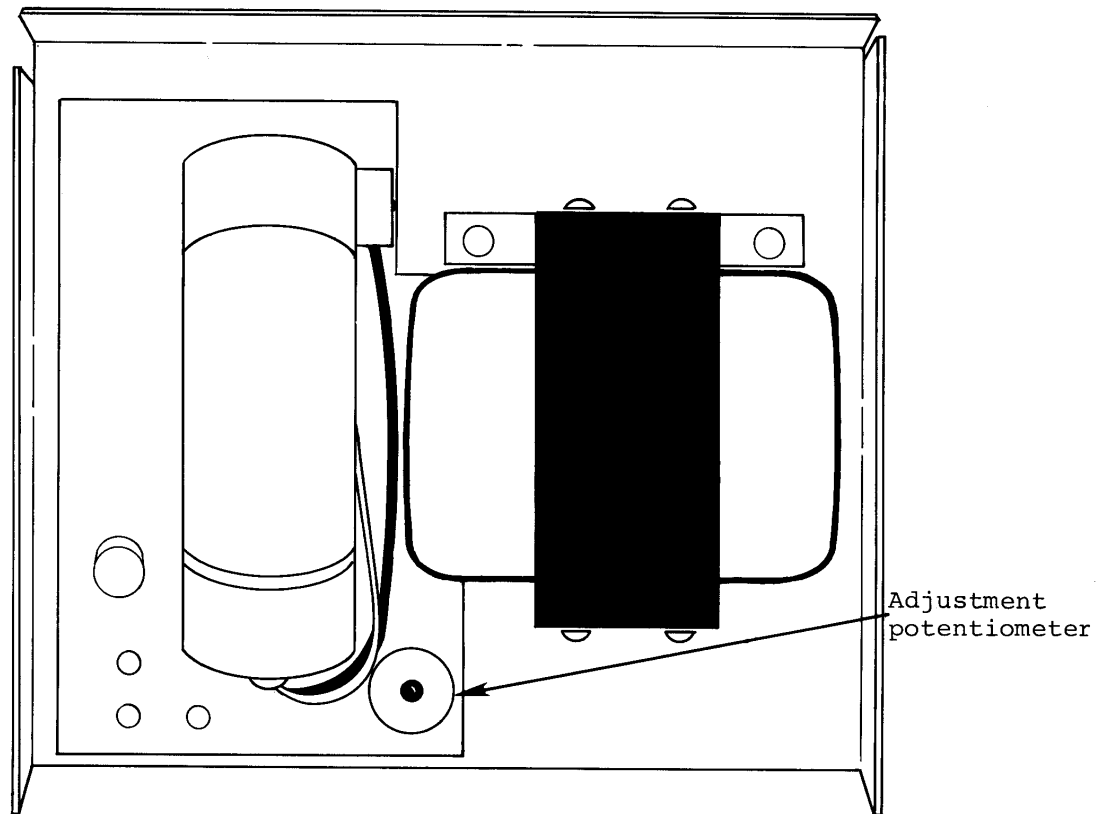

Figure 3: Power Supply Adjustments
2. Adjust the power supply potentiometer for  $+5.0 \pm .1$  VDC (see Figure 3).
| 1 Power supply(see Figure 3)   | 4 Fuse             |